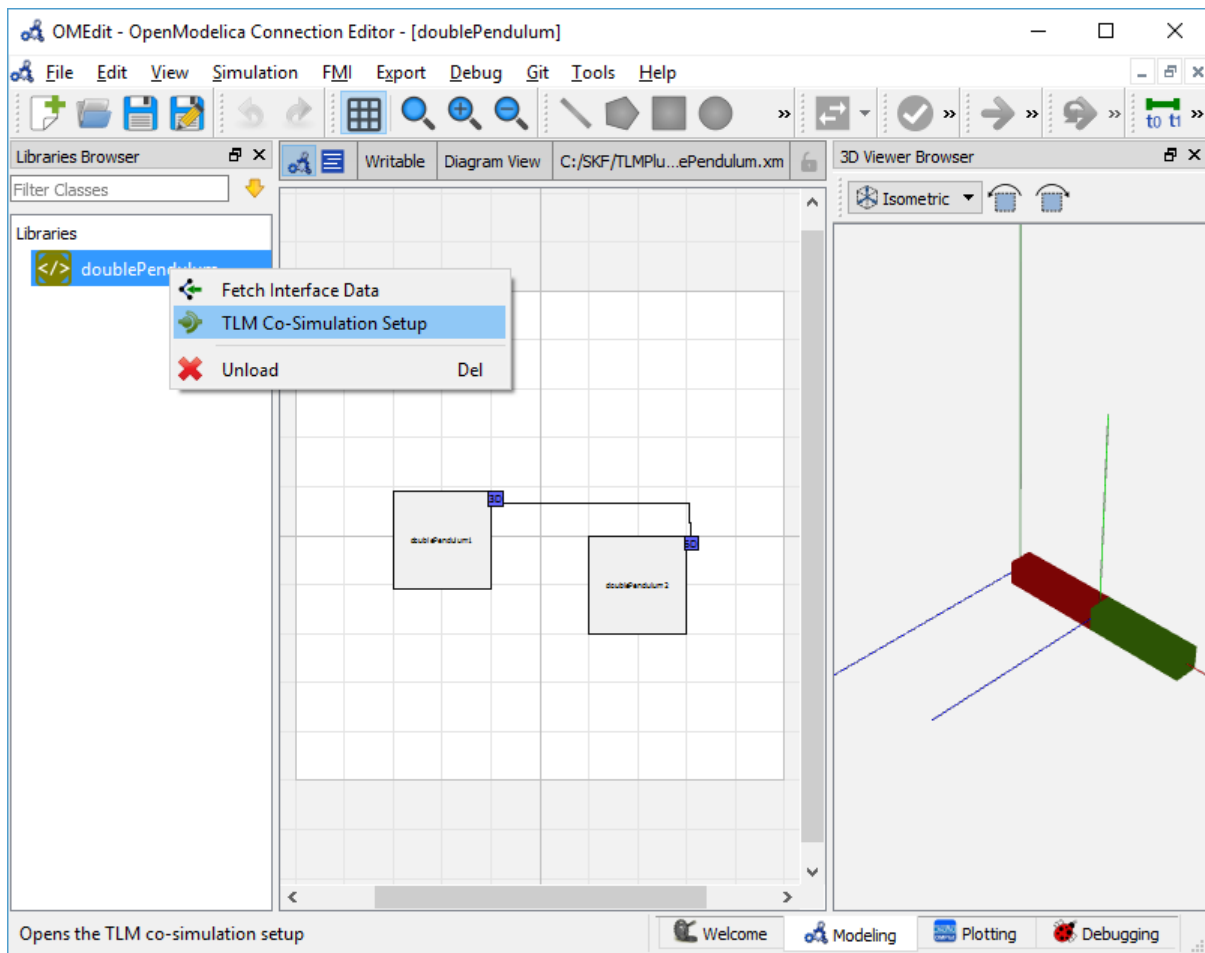

Figure 7.3: Co-simulating and Fetching Interface Data of a composite model from the Pop up Menu .
- Right click the composite model in the **Libraries Browser** and choose **TLM Co-Simulation setup** from the popup menu (see Figure 7.3)
- Right click the composite model in the **Library Browser** and choose **Fetch Interface Data** from the popup menu (see Figure 7.3).